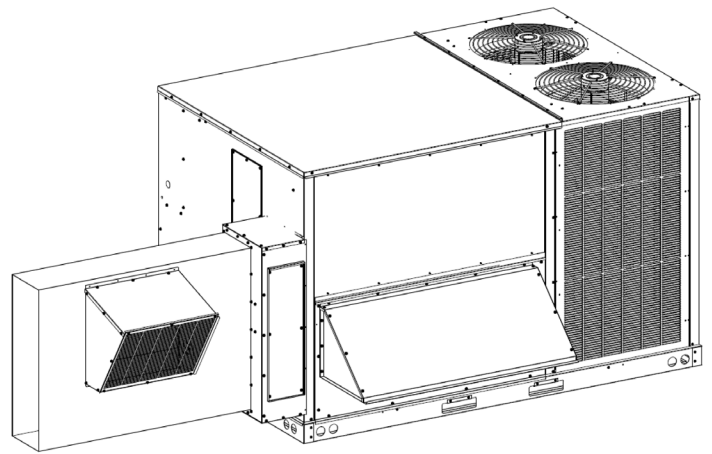

FIGURE 14 - BAROMETRIC RELIEF HOOD
9. Fasten the fully assembled barometric relief hood over the hole in the return duct using provided screws (see Figure 14).